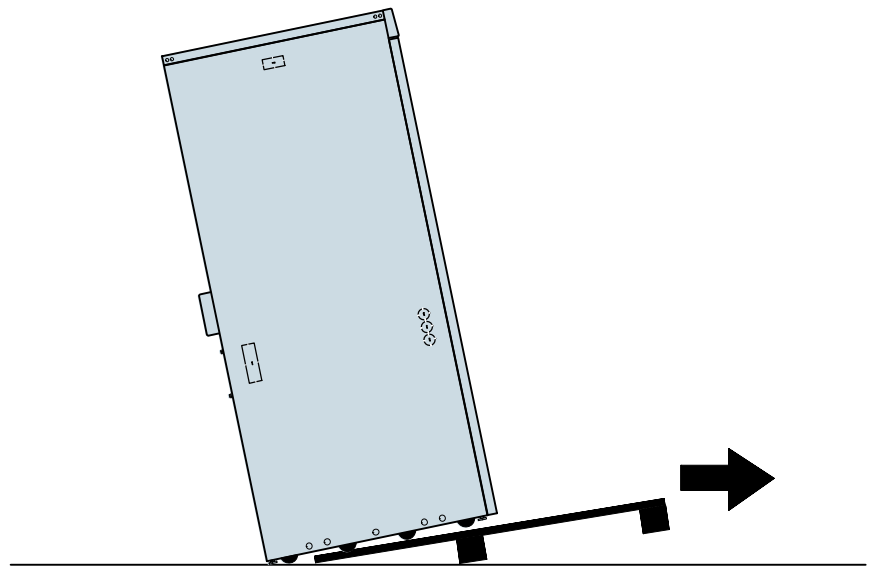

Figure 9. Removing the Pallet (UPS Shown)
- 10.** With the cabinet supported, slowly pull the pallet away from the cabinet (see Figure 9).